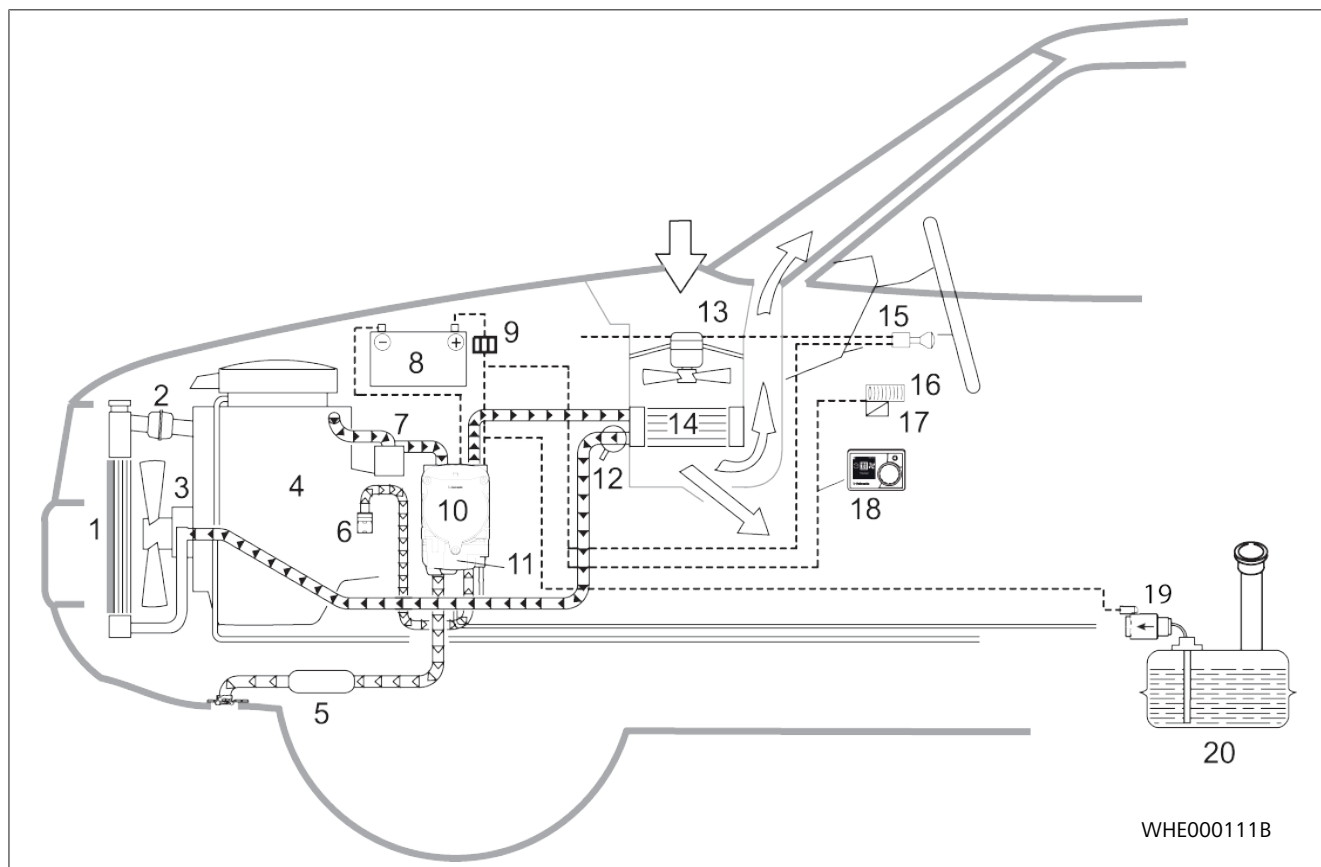
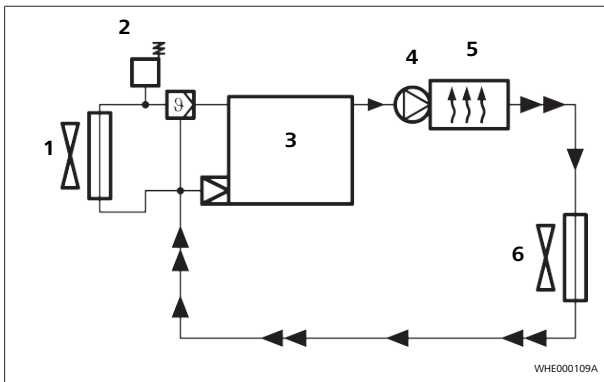
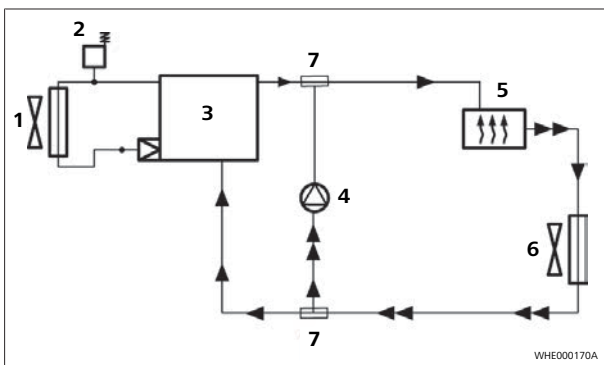

Fig. 5 Example installation of the heater
Fig. 6 Integration in the coolant system Inline
Fig. 7 Integration in the coolant system Island
- The Thermo Top Evo, Thermo Top Evo Smart is connected to the vehicle coolant system as shown in Fig. 7, Fig. 5 and Fig. 6.
- The coolant pump must be mounted in the coolant circuit on the pressure side of the heater/heat exchanger inlet (see Fig. 6).